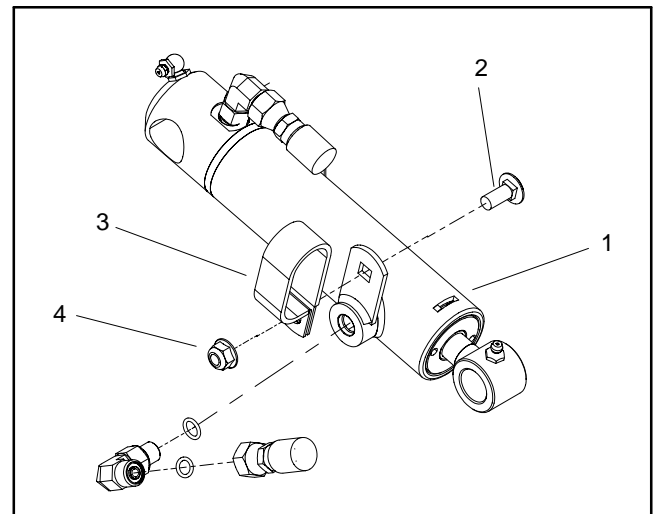

Figure 95
3. If lift cylinder for deck #4 or #5 is being removed, remove flange nut and carriage screw that secure r-clamp to lift cylinder (Fig. 95).
3. Slide barrel end of lift cylinder onto pivot shaft. Secure cylinder with flange head screw (item 3) and flat washer (item 5). Torque screw from **67 to 83 ft-lb (91 to 112 N-m)**.
4. Align lift cylinder to lift arm mounting holes. Slide cylinder slide pin (item 13) (with thrust washer (item 12) and retaining ring (item 11) installed on one end) through the lift cylinder and lift arm. Install second thrust washer on pin and secure with retaining ring (item 11).
7. If lift cylinder for deck #4 or #5 was removed, secure r-clamp to lift cylinder with flange nut and carriage screw (Fig. 95).